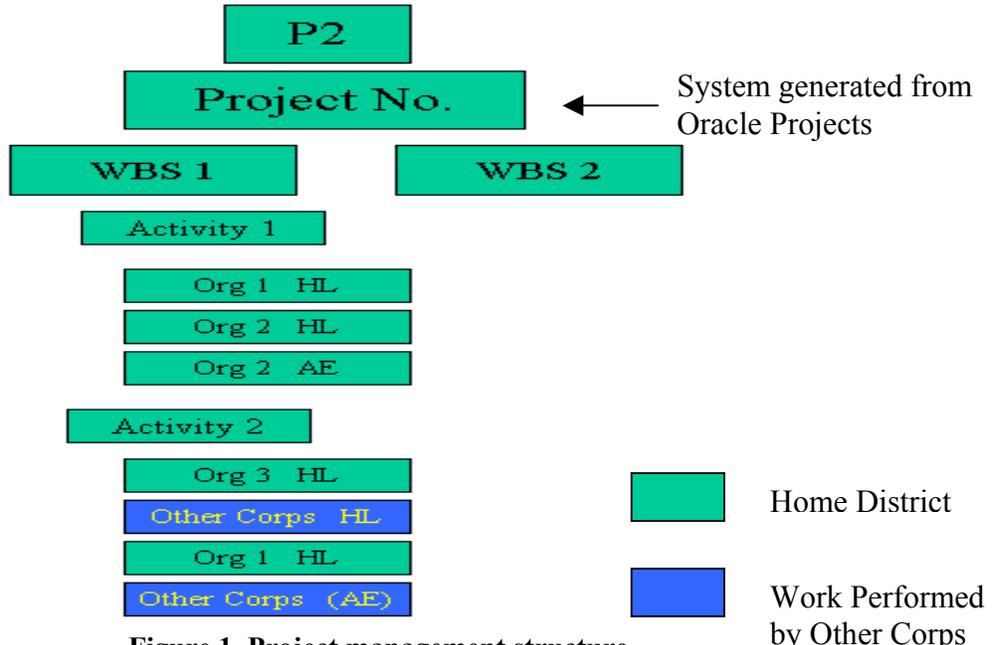

Figure 1. Project management structure.
1. *PMP Development*[PROC 1012] and related procedures define how the PMP will be developed and ultimately approved for execution. Figure 1 displays a typical WBS structure for a sample project developed in Oracle Projects/P3e (P2) to be resourced in P3e and interfaced with CEFMS for the creation of work items and PR&Cs. The WBS elements shown in green identify resource estimates for work performed in the home District. In a virtual project delivery team (PDT) environment, the blocks shown in blue identify resource estimates for work performed by another Corps district. The performing District is responsible for resourcing these activities.